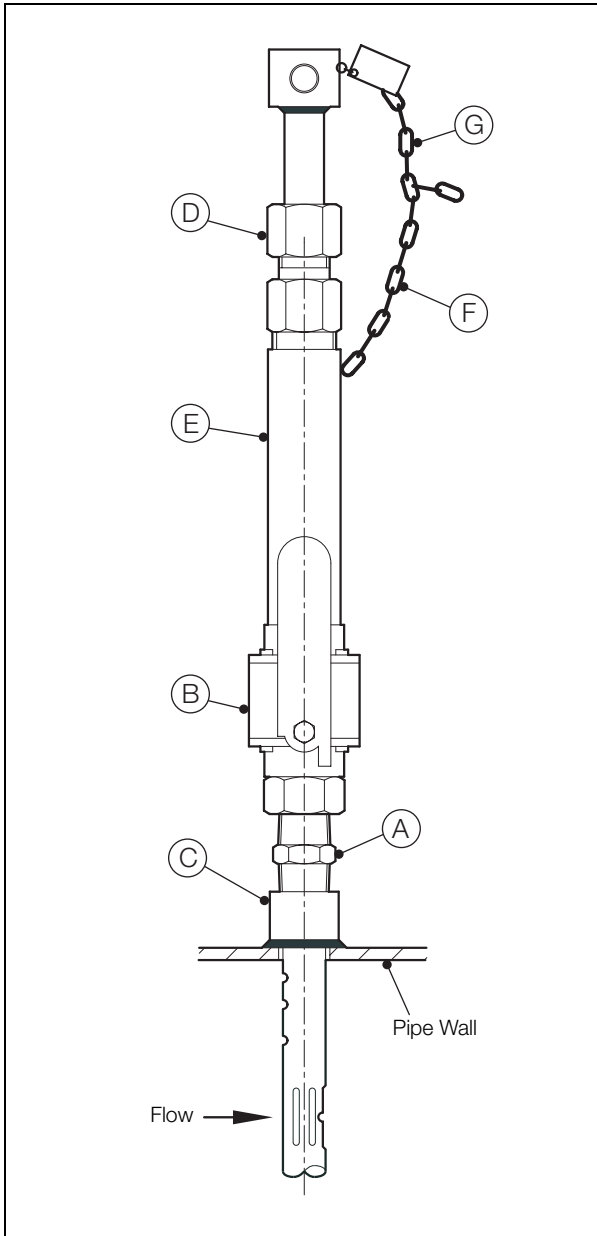

Fig. 2.11 Models L601 and L701 Installation
5. Referring to Fig. 2.11:
- a. Apply suitable sealant to the close nipple (A) and isolation valve (B) and fit them to the threaded fitting (C). Tighten securely.
- b. Attach hot-tap drilling equipment to isolation valve (B) in accordance with the manufacturer's instructions.